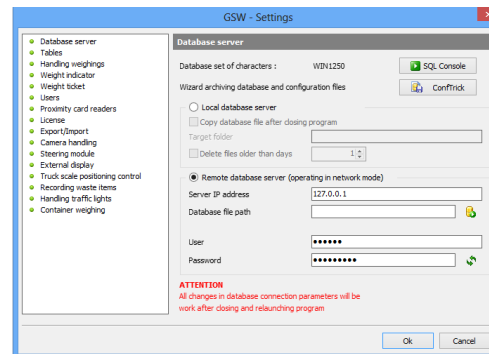

Fig. 36 Configuring connection with a remote database server - example
1. Go to GSW software configuration (menu Tools\Settings) – Fig. 36